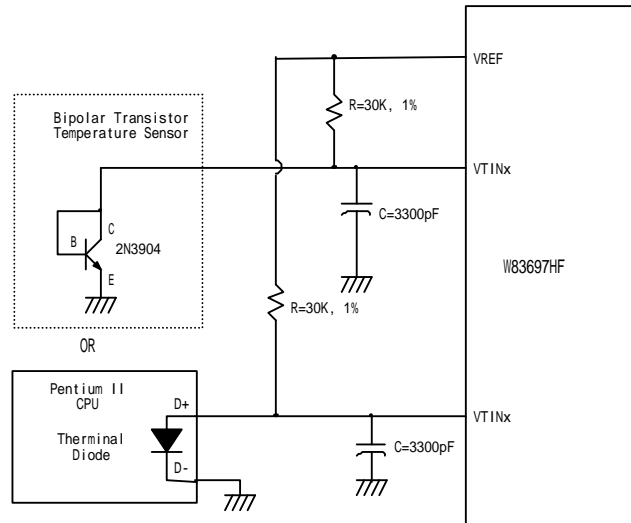

Figure 9.3
The W83697HF can alternate the thermistor to Pentium II™ (Deschutes) thermal diode interface or transistor 2N3904 and the circuit connection is shown as Figure 9.3. The pin of Pentium II™ D- is connected to power supply ground (GND) and the pin D+ is connected to pin VTINx in the W83697HF. The resistor R=30K ohms should be connected to VREF to supply the diode bias current and the bypass capacitor C=3300pF should be added to filter the high frequency noise. The transistor 2N3904 should be connected to a form with a diode, that is, the Base (B) and Collector (C) in the 2N3904 should be tied together to act as a thermal diode.